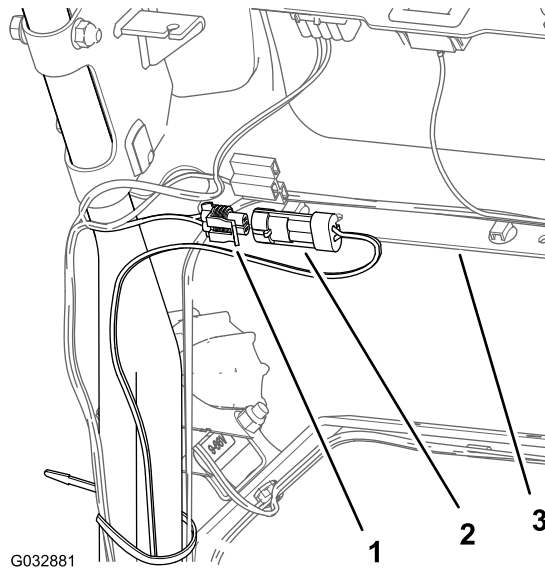

Figure 14
4. At the back of the console, connect the 2-pin connector of the wire harness for the LED light kit into the 2-socket connector of the wire harness for the LED light and wireless hour meter harness kit (Figure 14).